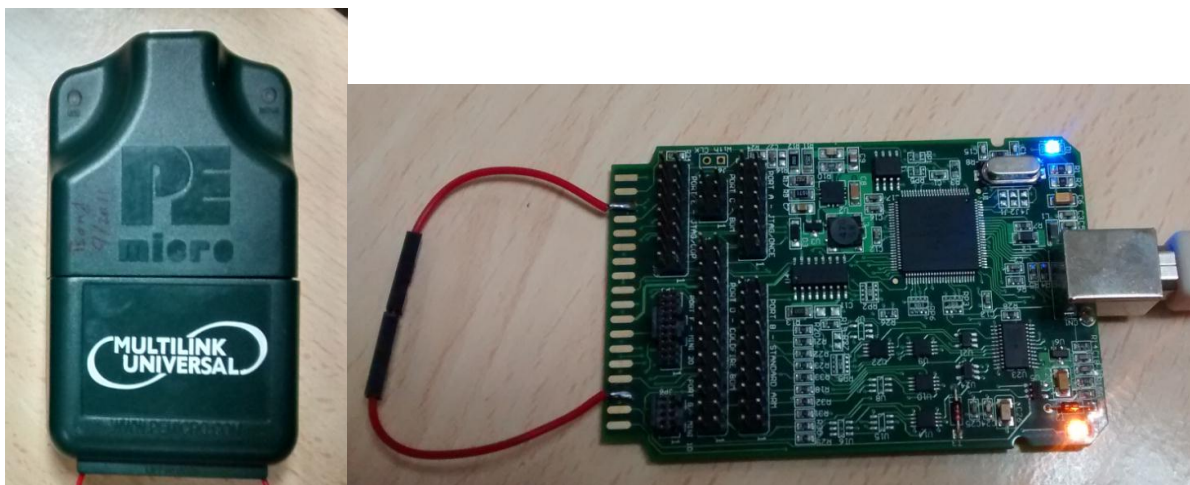

Figure 11. USB Multilink Universal Rev. A & Jumper Cable on Edge Connector
Power (5 V) can be provided directly by the USB Multilink Universal Rev. A (Figure 11). However, below are the steps to follow to obtain power from it.
- Solder a jumper wire between pins 3 and 16 on edge side connector as shown in the Figure 11.